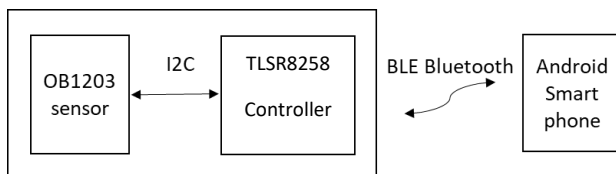

Figure 1. Block Diagram of ICE
The ICE hardware performs reflective, non-invasive measurements (e.g., at the fingertip), transmits the data via BLE to a smartphone or tablet (see Figure 1), where the Heart Rate (HR) and blood oxygen saturation (SpO₂) are determined by an Android app. During this process the proximity sensor function keeps the measurement running as long as there is a finger present.